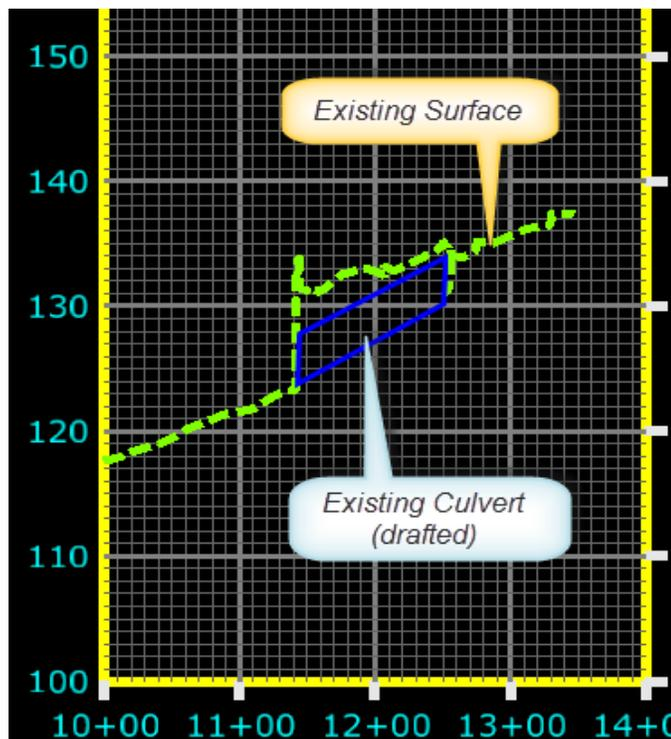

Figure 15 - Existing Profile
- D. In MicroStation select the location you want to place the profile and data point. A profile will be placed graphically in MicroStation. In our example draw the box culvert or display drainage structures. See Figure 15.